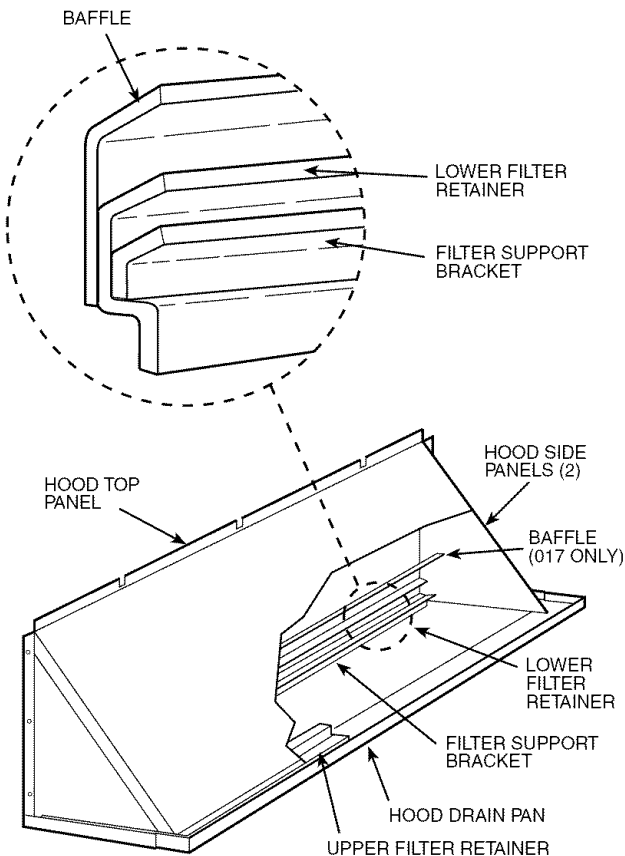

Fig. 19 — Outdoor-Air Hood Details
- Assemble hood top panel, side panels, upper filter retainer, and drain pan (see Fig. 19).
- Secure lower filter retainer and support bracket to unit. See Fig. 19. Leave screws loose on size 017 units.